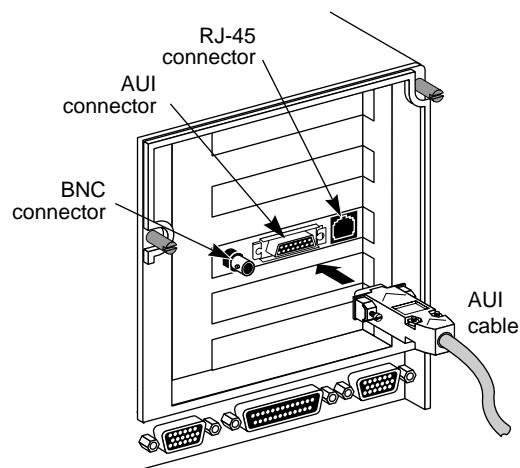

Figure 2-4 Connecting the AUI Cable
- 2 Connect the AUI cable or transceiver to the AUI connector on the adapter, as shown in Figure 2-4.